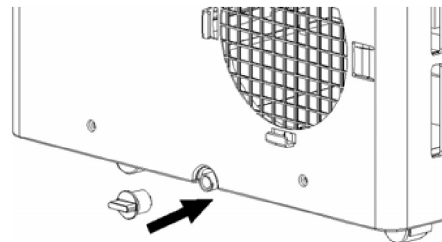

Fig. 6
- Remove the rubber bung from the outflow and allow the water to drain out (Fig. 6).